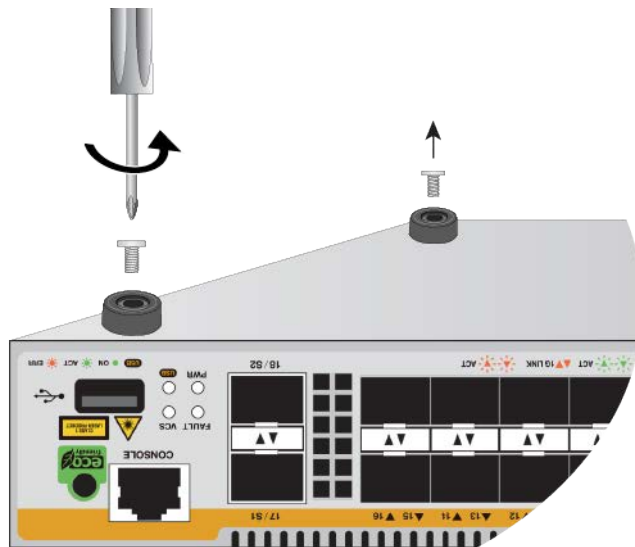

Figure 40. Removing the Bumper Feet
2. Use a crosshead screwscrewdriver to unscrew the bumper feet screws. See Figure 40.
2. Use a small flat-head screwdriver to gently pry the rivet from the bumper feet. See Figure 40.